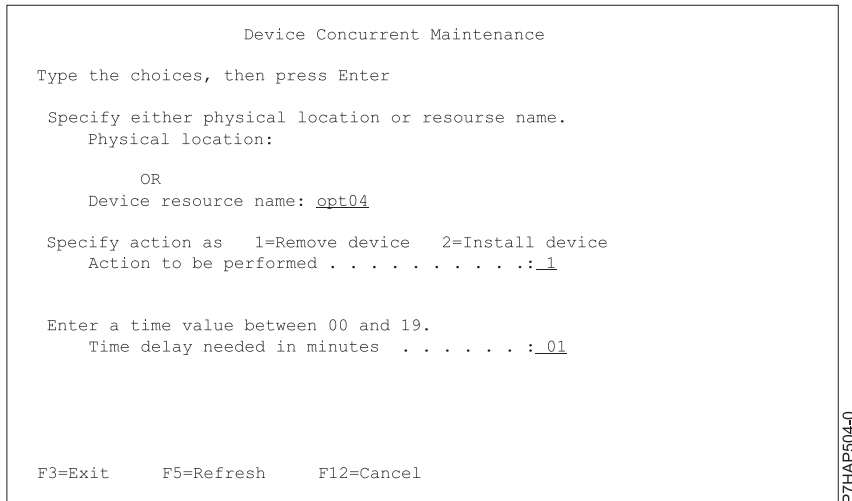

Figure 37. Example display of device concurrent maintenance
- i. At the HSM display, select **Device Concurrent Maintenance**, and then press **Enter**. Figure 37 is an example of the display.